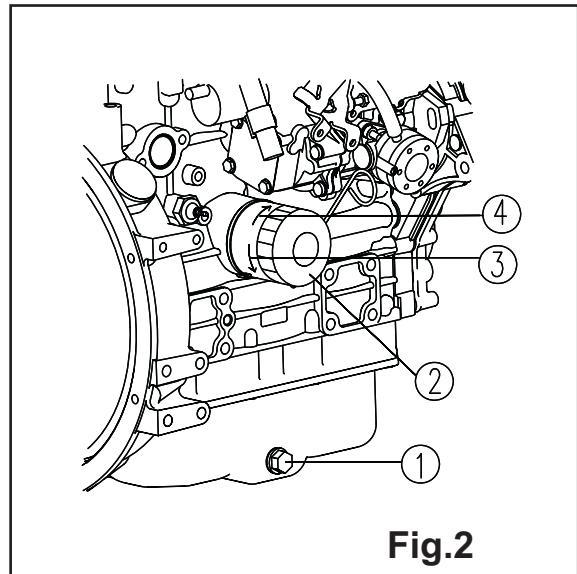

Fig.2
- 4)Take out one of filter cover (②in fig. 2), open the exit of brace case to drain the engine oil more easier
- 6)Take out the drain valve (①in fig. 2) to drain the oil.
- 1)Use a spanner to turn the oil filter(②in fig.2) deasil (③in fig.2).